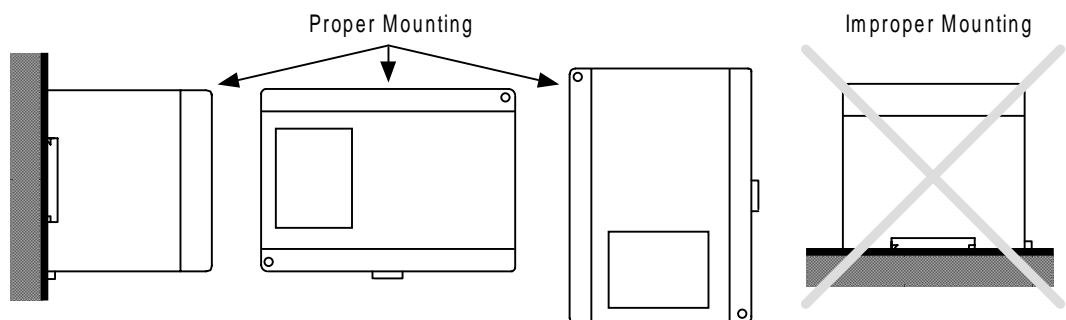

Figure 3-1. Recommended Mounting Orientations for the Micro PLC
- Provide adequate ventilation space. Recommended minimum space allowances are approximately: 50mm (2 inches) top, sides and bottom. See Figures 3-1 through 3-3.
The Micro PLC can be mounted on a wall or panel using screws, or on a 35 mm DIN rail. The Micro PLC must be mounted on a vertical surface. Do not mount it on a horizontal surface. (See Figures 3-1 through 3-3 for recommended mounting orientation and spacing requirements.)